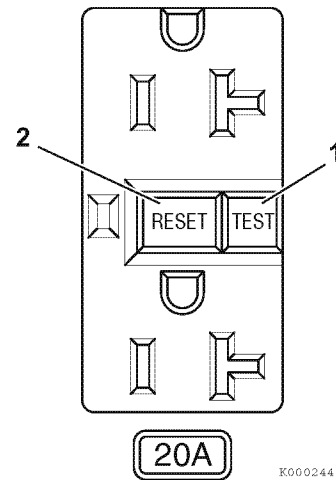

Figure 35
Use the grounding terminal on the control panel. In the event that the power to this receptacle is lost, and a circuit breaker has not opened, the power can be restored by pressing the RESET button (2, **Figure 35**) on the GFCI unit.
- (a) To test the GFCI unit, press the TEST button (1, **Figure 35**). The RESET button (2, **Figure 35**) should pop out. If the RESET button does not pop out, notify your YANMAR dealer or distributor that you have lost GROUND FAULT protection.